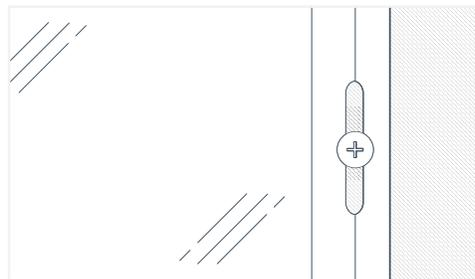

Fig. 2
- Always fasten in the center of the screw flange slots; fastening at the end of the slots can cause the panels to buckle or distort (Fig 2)